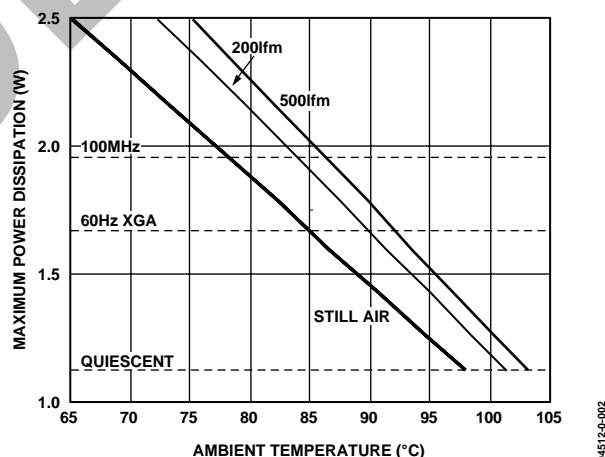

Figure 2. Maximum Power Dissipation vs. Temperature\*
**Note:** When operating under the conditions specified in this data sheet, the AD8384's quiescent power dissipation is 1.1 W. When driving a 6-channel XGA panel with a 150 pF input capacitance, the AD8384 dissipates a total of 1.58 W when displaying 1-pixel-wide alternating white and black vertical lines generated by a standard 60 Hz XGA input video. When the pixel clock frequency is raised to 100 MHz (the AD8384's maximum specified operating frequency), total power dissipation increases to 1.83 W. Figure 2 shows these specific power dissipations.